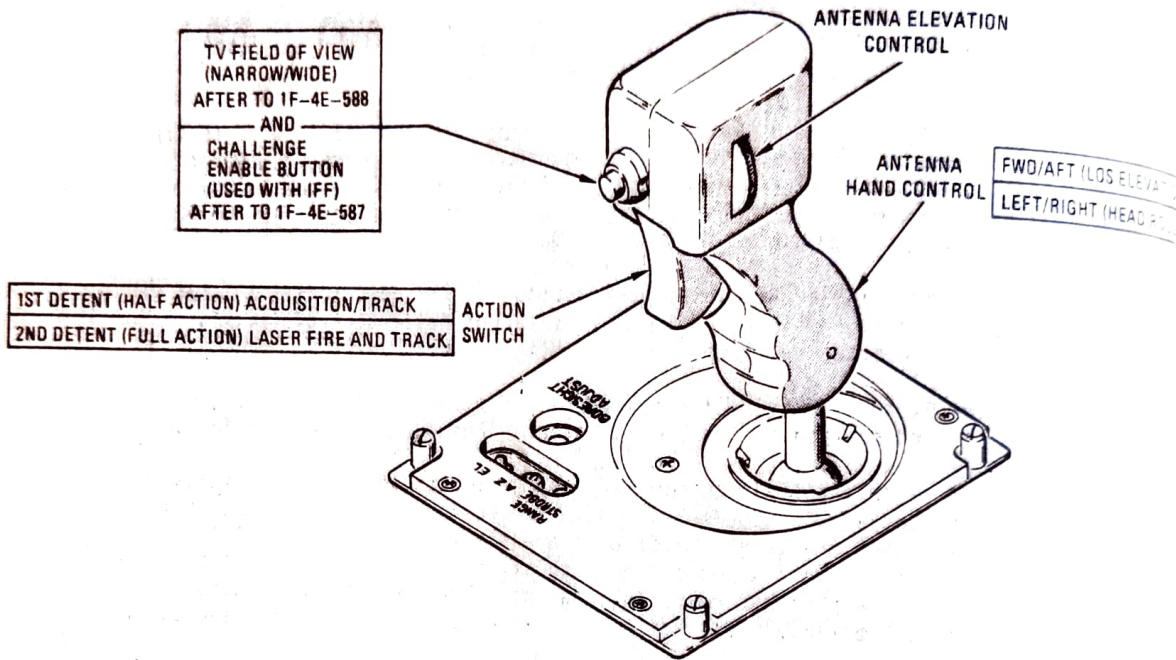

Figure 16, Antenna Hand Control
g. Antenna Hand Control: See Figure 16. The radar hand control is used to track the target and fire the laser. The magnitude of the corrective rate commands generated by the hand control is proportional to the amount of displacement of the control from the centered position. Forward and aft movement changes the elevation angle of pod FOV, and left/right changes the pod azimuth angle (track mode only).
(1) FOV Button (same as APX interrogate button). This alternates between WFOV and NFOV each time the switch is pressed. When the target designator system, is unstowed, WFOV is automatically selected until the FOV switch is pressed.
(2) Trigger Switch. This switch has three positions: fully released, pressed to the first detent, and pressed to the second detent. The functions are as follows: